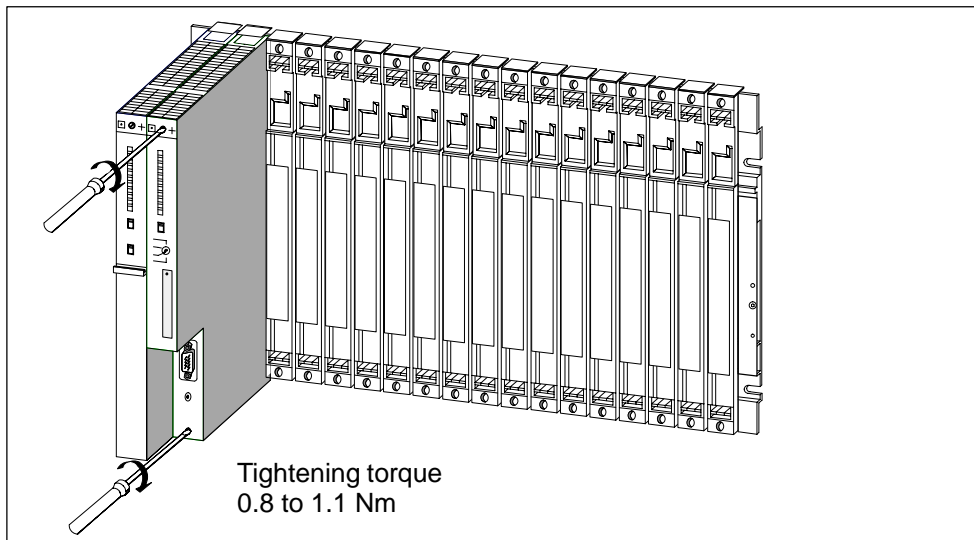

Figure 2-7 Screwing the Modules in Place
5. Tighten the module screws top and bottom with a torque of 0.8 to 1.1 Nm (see Figure 2-7). Triple-width modules are secured with two screws at the top and at the bottom.